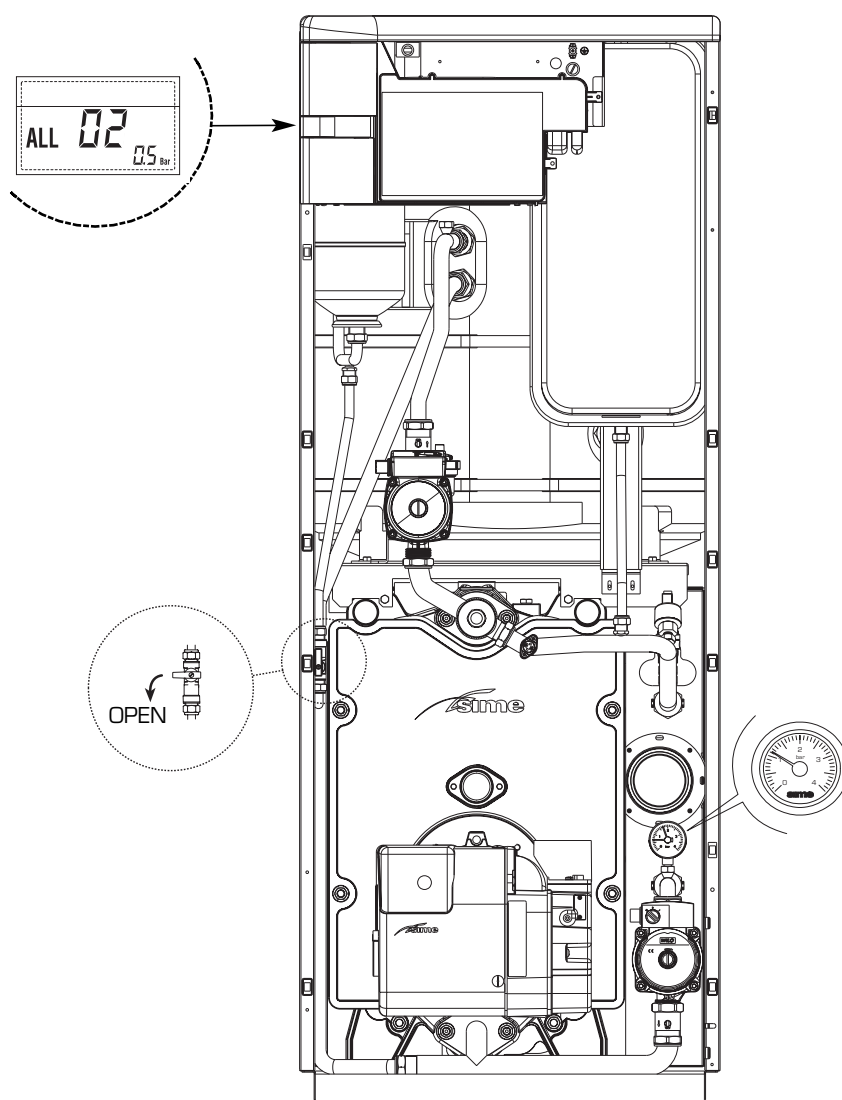

Fig. 15/1
– **HIGH WATER PRESSURE ANOMALY ALARM 03 (fig. 15/2)**